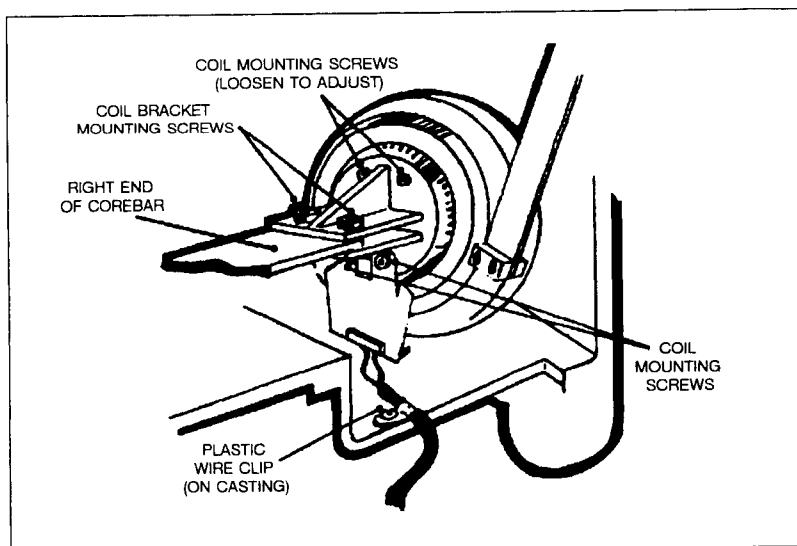

Figure 6-24. Linear Motor Coil Assembly
- a. Switch the printer offline and the ON/OFF switch to the OFF (0) position.
- e. Remove the 3 mm Allen screw securing the plastic wire clip located near the coil (see Figure 6-24).
- f. Remove the two 4 mm Allen screws mounting the machined aluminum coil bracket to the end of the printbar (see Figure 6-24).
Dress the voice coil leads to ensure that the leads are not touching each other and that none of the leads are touching the casting. The plastic wire clip must be in place and secure (see Figure 6-24).